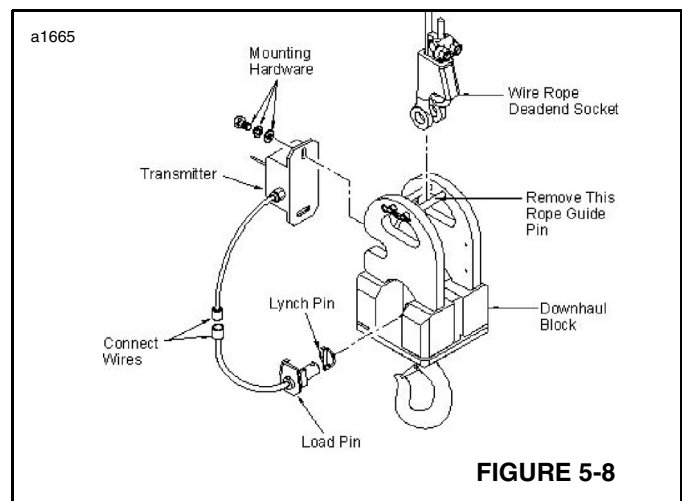

FIGURE 5-8
4. Using the hardware removed when removing the load indicator transmitter, install the transmitter onto the down haul weight (see Figure 5-8).
5. Remove the rope guide pin indicated in Figure 5-8 from the down haul weight.